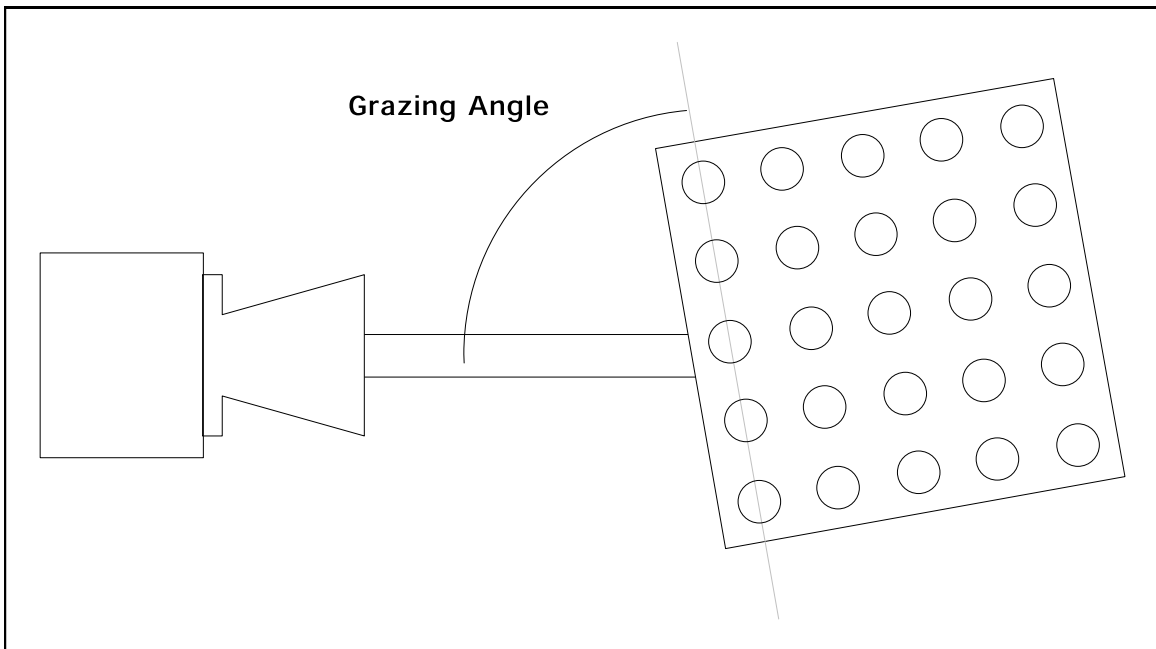

Figure 3: The Grazing angle, measured with respect to the crystal plane for (100) orientation.
3. Rotate the crystal (with the rotating table) one degree clockwise and the Rotatable Goniometer arm two degrees clockwise. Record the grazing angle of the incident beam and the meter reading. (The grazing angle is the complement of the angle of incidence. It is measured with respect to the plane under investigation, NOT the face of the cube; see Figure 3.)